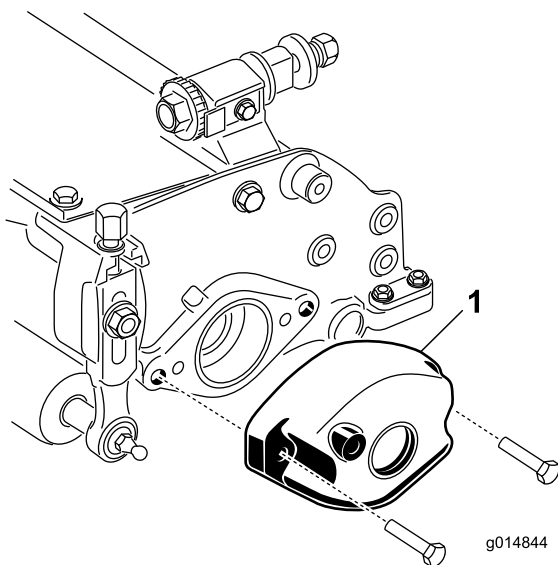

Figure 7
1. Remove the 2 capscrews securing the counter weight to the left end of the cutting unit. Remove the counter weight (Figure 7).